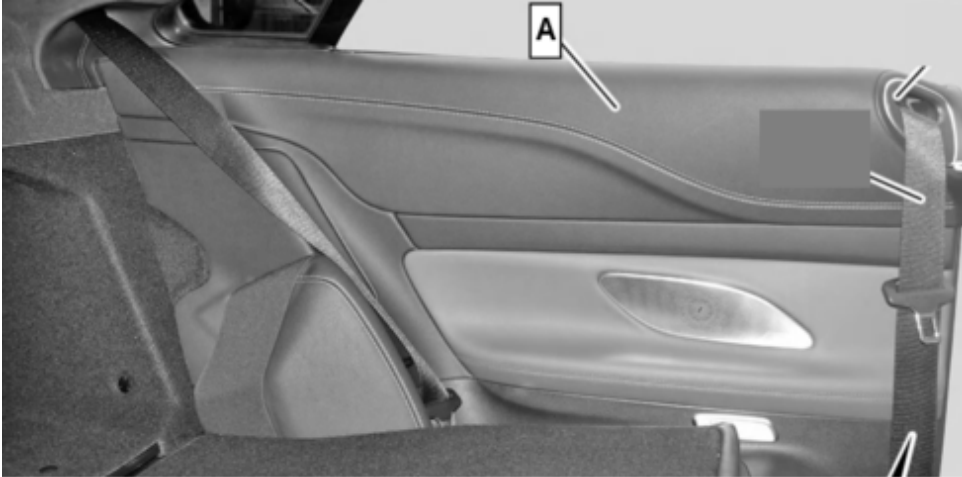

Figure 1
1. Remove upper trim (A, Figure 1) on the **left** in the rear (AR68.30-P-4783LWO)